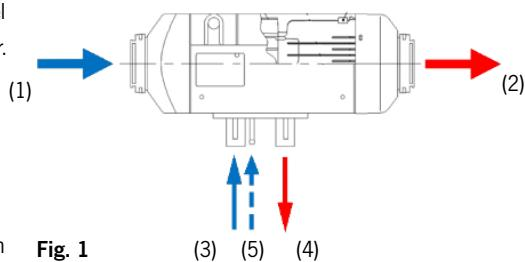
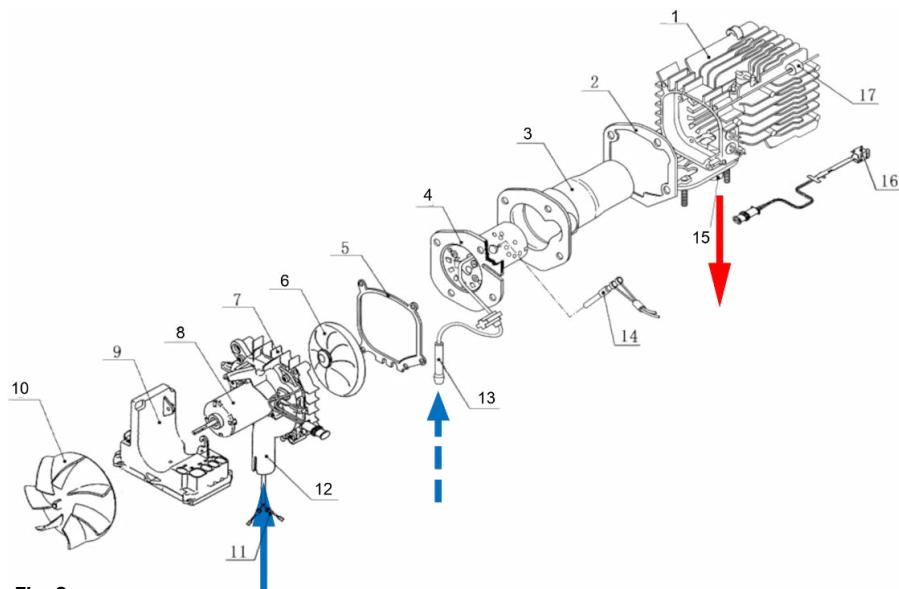

Fig. 1
Fig. 2
This furnace consists of a burner [Page 80 Fig. 2 (4)]
and a combustion chamber [Page 80 Fig. 2 (3)] which are situated inside of a heat exchanger [Page 80 Fig. 2 (1)].
Cold air is sucked into this passage by the impeller [Fig. 1 (1)] [Page 80 Fig. 2 (10)]. After passing the heat exchanger hot air is blown out [Fig. 1 (2)].
For the burning process the heater must be supplied with fuel and fresh air. The fuel enters the burner through the fuel pipe inlet [Fig. 1 (5)] [Page 80 Fig. 2 (13)] and is ignited by the glow plug [Page 80 Fig. 2 (14)] after its atomization. The flame enters the gap between the walls of the burner [Page 80 Fig. 2 (4)] and the combustion chamber [Page 80 Fig. 2 (3)] at the rear of the burner.
The supply of combustion air is provided by the air intake [Fig. 1 (3)] [Page 80 Fig. 2 (12)]. The inner supply air fan [Page 80 Fig. 2 (6/8)] forces the air into the burner. After the combustion of the air and vaporized fuel mixture the exhaust is discharged through the exhaust gas stub [Fig. 1 (4)] [Page 80 Fig. 2 (15)].
The controller [Page 80 Fig. 2 (9)] is situated in the anterior part of the heater behind the impeller of the heating air fan. Its main tasks consist of collecting all data of the heater (e.g. temperature sensors, drive circuit, frequency, rotational speed, voltage, and more). Based on these data the controller automates the heating process, the system surveillance and the handling of system malfunctions.
The overheating sensor [Page 81 Fig.3 (X3)] is installed on the back outer wall of the heat exchanger [Page 80 Fig. 2 (16)]. If the temperature of the aluminium becomes higher than a defined upper limit, the fuel pump circuit will be cut off by the controller and the supply of fuel is stopped immediately. Then for purpose of overheating protection the heater is turned off.